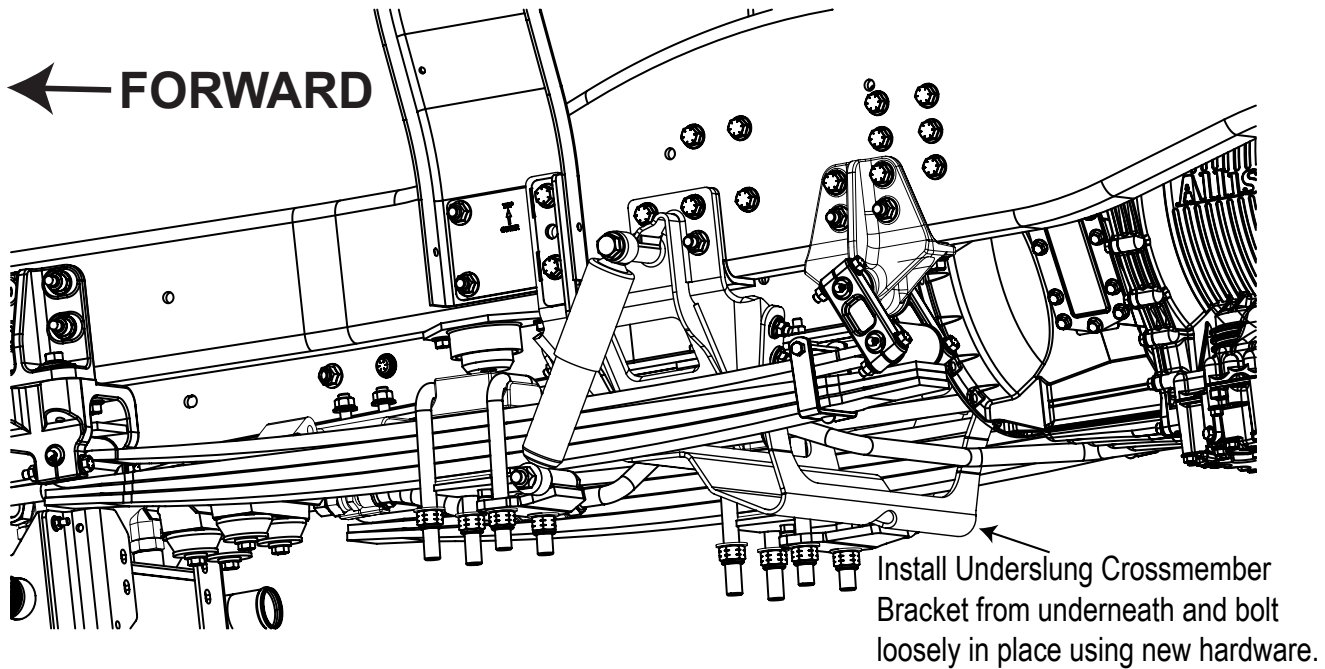
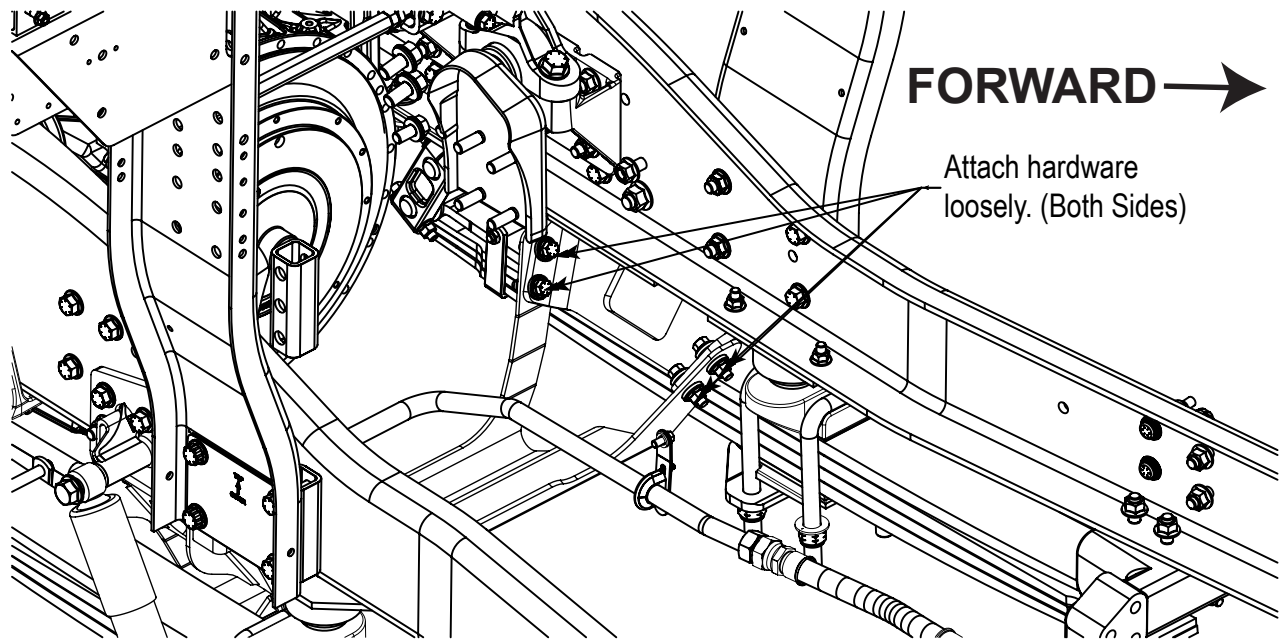

Figure 8
Figure 9
- From underneath the vehicle, install the Underslung Crossmember (S4160002-001) and bolt loosely using new Flange Bolts (FE410150CW20), Locknuts (fine) (FE286250DW01), and Washers (3082750) (both sides). Torque bolts to 90 lb. ft. (Figure 8 and Figure 9).